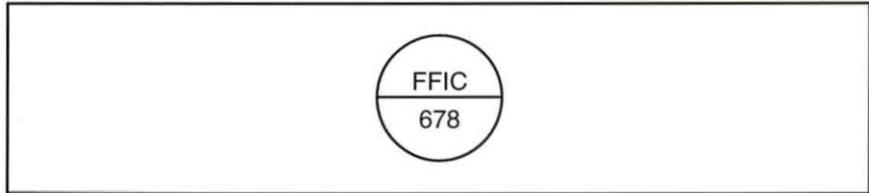

Figure 64. Instrument Tag
4. Determine the measured variable and function of the device using the instrument tag in figure 64.